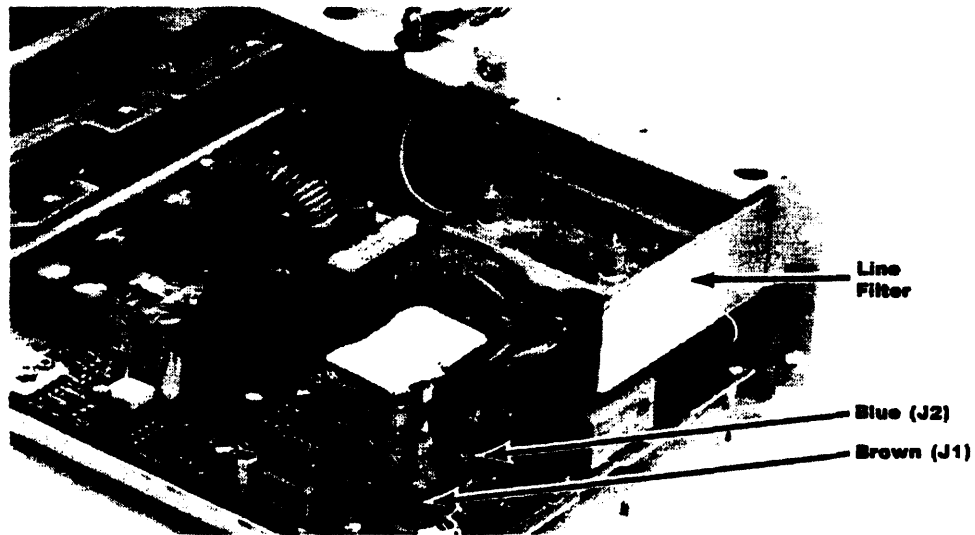

Figure 6-31a. Power-Supply Assembly Showing AC Line Filter
2. The ac line filter is shown in figure 6-31a. Disconnect the line filter ground wire from the chassis.
Leave the ac line filter connected to the power supply PCA unless you must replace the line filter or the power supply PCA. If you must disconnect the line filter, remove its leads from connectors J1 and J2 on the power supply PCA (see figure 6-31a).
Do not reverse the brown and blue line-filter leads when replacing the line filter. They must be connected as shown in figure 6-31a. If these leads are reversed, there will be no fuse protection.